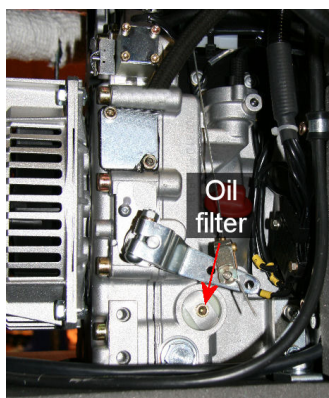
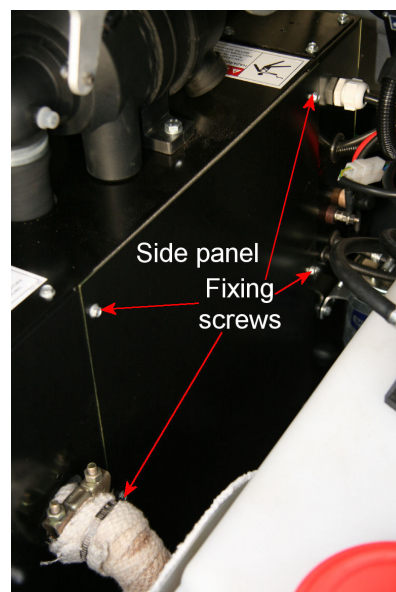

Fig 2-6 Engine oil filter
Fig 2-7 Engine side panel
1. To gain access to the oil filter it is necessary to remove the side panel from the engine. Fig 2-7 shows the side panel and some of the fixing screws. The oil filter is located near the bottom of the engine (Fig 2-6).